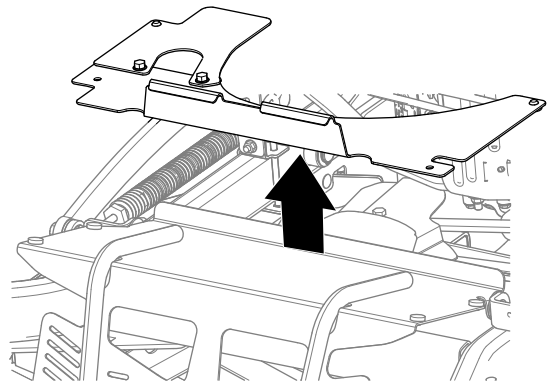

Figure 36
1. Bolt—5/16 x 1 inch (2)
3. Remove the hex nut (5/16 inch) nut (5/16 inch) securing the guard extension to the carriage bolts (Figure 36). Remove the guard extension.